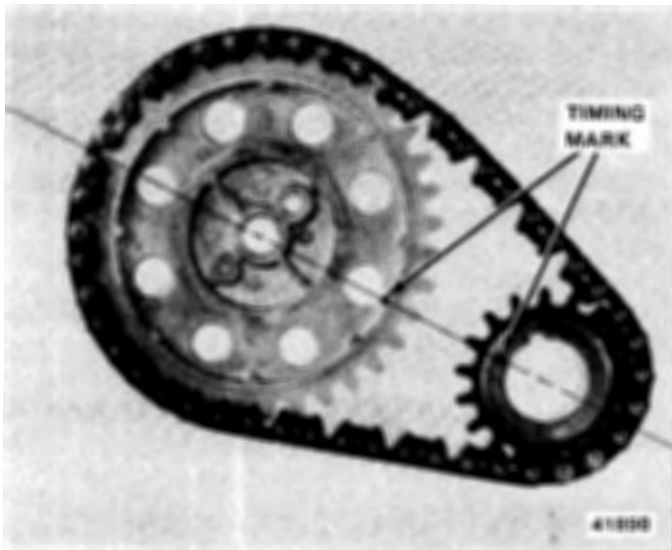

Fig. 1A-28 Sprocket Alignment
(1) Remove drive belt(s).
(2) Remove radiator fan and hub assembly.
(3) Remove vibration damper pulley (if equipped).
(4) Remove vibration damper.
(5) Remove timing case cover.
(6) Remove oil seal from timing case cover.
(7) Remove camshaft sprocket retaining bolt and washer.
(8) Rotate crankshaft until 0 timing mark on the crankshaft sprocket is closest to and in a centerline with timing pointer of camshaft sprocket (fig. 1A-28).
(1) Assemble timing chain, crankshaft sprocket, and camshaft sprocket with timing marks aligned as shown in figure 1A-28.
(2) Install assembly to the crankshaft and camshaft.
(3) Install camshaft sprocket retaining bolt and washer and tighten to 50 foot-pounds torque.